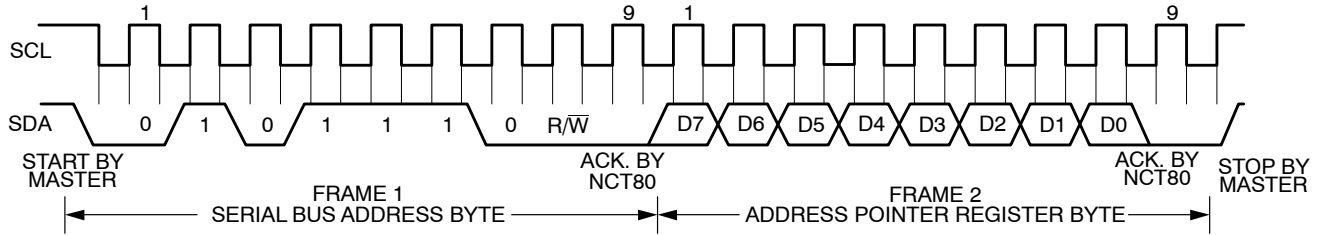
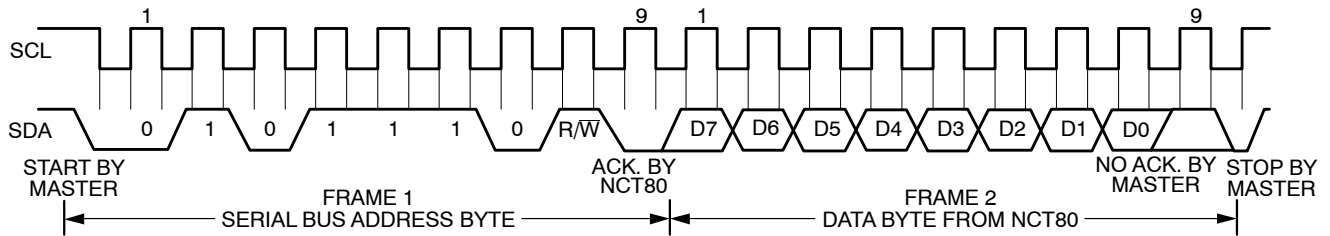

Figure 16. Writing to the Address Pointer
Figure 18. Reading a Byte from the NCT80
1. If the NCT80's Address Pointer Register value is unknown or not the desired value, it is first necessary to set it to the correct value before data can be read from the desired data register. This is done by performing a write to the NCT80 as before, but only the data byte containing the register address is sent, as data is not to be written to the register. This is shown in Figure 16. A read operation is then performed consisting of the serial bus address, R/W bit set to 1, followed by the data byte read from the data register. This is shown in Figure 18.
2. If the Address Pointer Register is known to be already at the desired address, data can be read from the corresponding data register without first writing to the Address Pointer Register, so Figure 16 can be omitted.